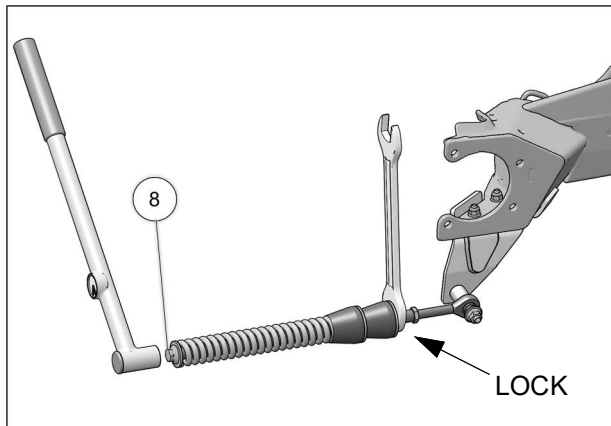

Fig. 10
10. Verify that spring assembly bolt (8) is tightened to the recommended torque specification: 75 Nm [55 lb•ft]. Make sure to lock in position, the large nut in front of the rubber cone dampers. Refer to Fig. 10